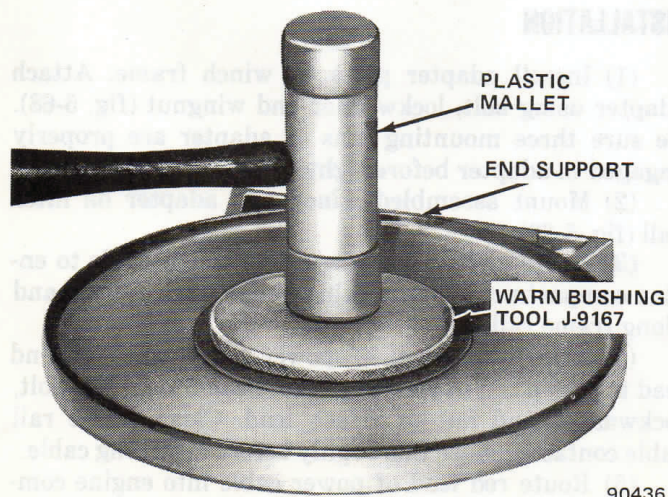

Fig. 5-64 Drum Shaft Bushing Installation
- (1) Install main gear in lower housing.
- (2) Install replacement drum shaft bushing in end support using Warn Bushing Tool 9167 (fig. 5-64).
- (3) Install replacement drum shaft bushing in lower housing using Warn Bushing Tool 9167 (fig. 5-64).
- (4) Install replacement thrust washer and oil seal on drum shaft. Lubricate seal with Jeep Automatic Transmission Fluid, Dexron, or equivalent before installation.
- (5) Lubricate winch drum bushing contact surfaces with chassis lubricant.
- (6) Align main gear and winch drum splines and install drum in lower housing and gear.
- (7) Install end support on winch drum and install end cap in support.
- (8) Install assembled lower housing and drum on winch mounting plate.
- (9) Install intermediate gear and lockplate in lower housing.
- (10) Raise and hold lockplate in disengaged position.
- (11) Install replacement O-ring on brake shaft and lubricate shaft with chassis lubricant.
- (12) Install cam gear, brake shaft bushing and oil seal on brake shaft. Be sure cam gear is engaged in tangs of brake shaft gear.